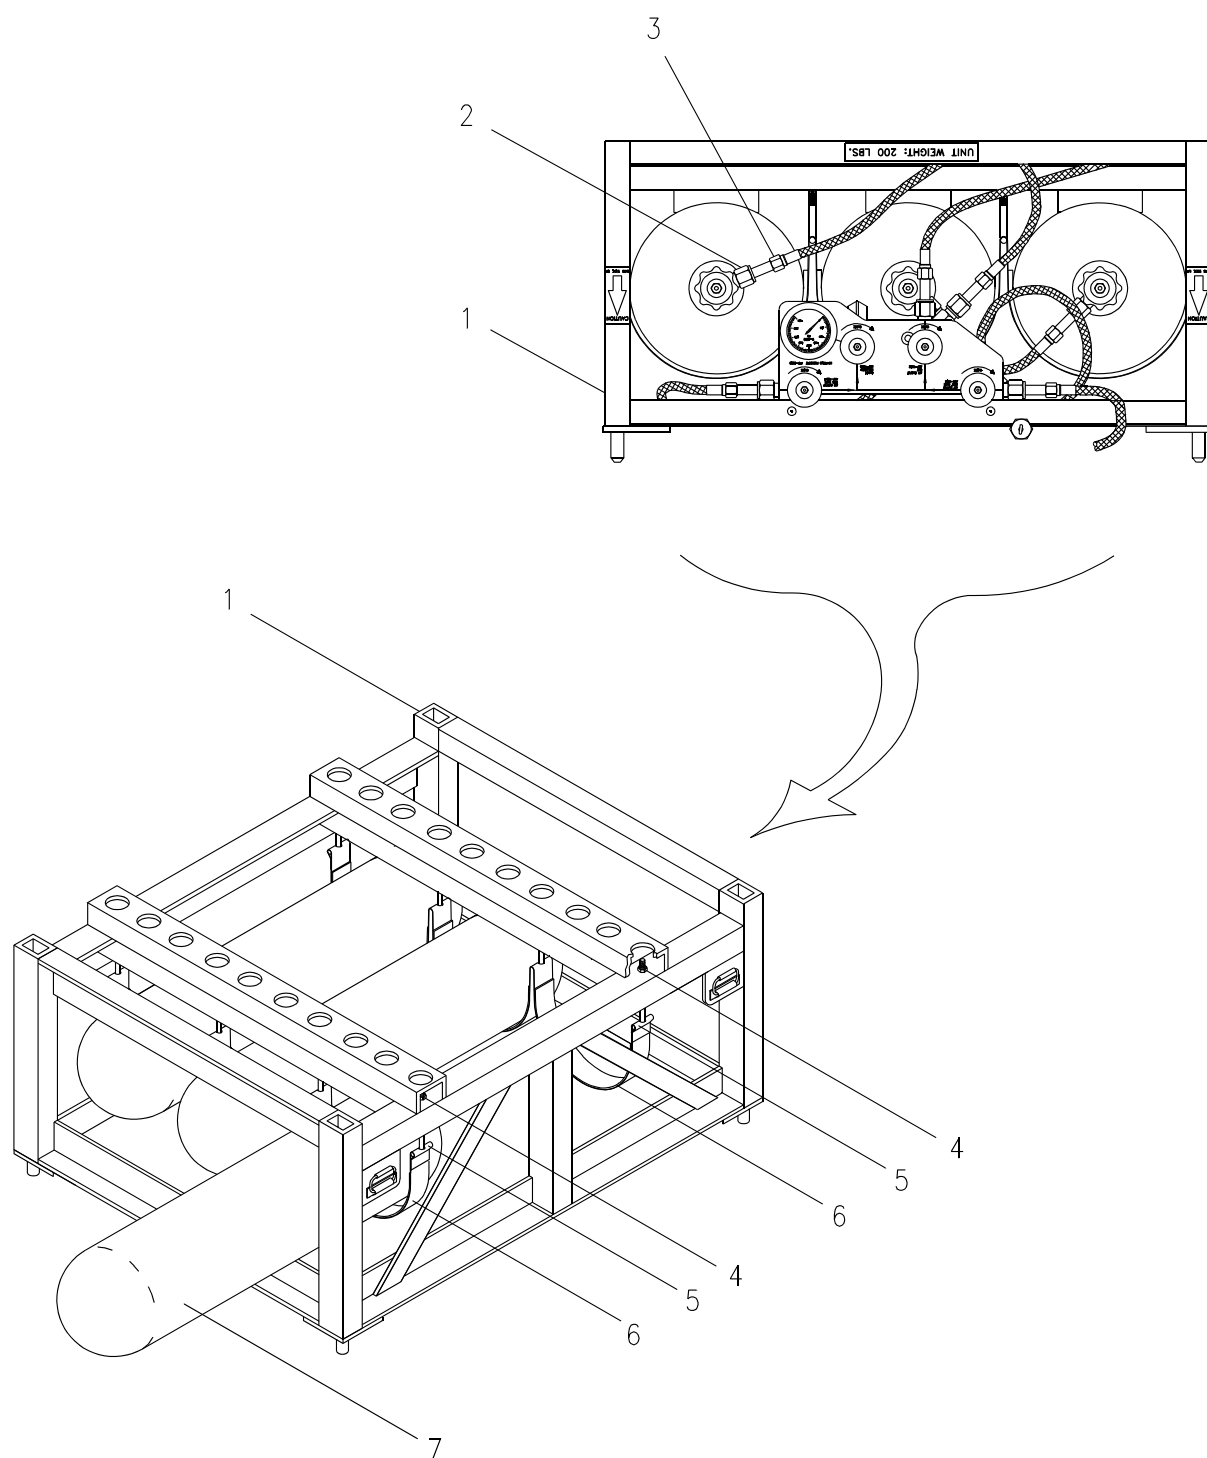

Figure 6-12. Flask Removal
assemblies, whereas AHP-V506 is connected to a cross. Refer to Figure 7-37 for an index of replacement part numbers and to Appendices C, D, and E for detailed inspection and handling procedures for HP air flasks. Unless otherwise noted, the callouts in the procedure below refer to Figure 6-12.
- (5) Bleed all air from flask(s) to be removed. Bag flask shutoff valve(s).
- (6) Loosen both strap assemblies (Figure 6-12, 6) evenly while holding T-bolts (5) with a pair of pliers and loosening nuts (4) until flask (7) rotates easily.
- (7) Slide flask (7) out through rear of flask rack assembly (1). Use caution to avoid damaging flask.
- (8) Repeat steps (6) and (7) for remaining flasks to be repaired or replaced.
- (1) Ensure flask rack assembly (1) is inverted and straps (6) are loosened.
- (2) Working from open end of flask rack assembly (1), carefully slide flask (7) through straps (6).
- (3) Using the upper portion of Figure 6-12 as a guide, turn flask until flask valve outlet is positioned approximately as shown in the figure. Note that each flask will be positioned differently according to its location within the rack.
- (5) Remove bagging from flask shutoff valve. While holding 3/4-inch hex nut (Figure 6-12, 3) in place, reinstall and tighten CGA 346 nut (2) to flask shutoff valve. If necessary, slightly reposition the flask valve outlets to achieve the proper fit before tightening the CGA 346 nut.
- (6) Secure both strap assemblies (6) evenly to flask (7) by holding T-bolts (5) with a pair of pliers while tightening nuts (4).
- (7) Repeat steps (2) thru (6) for all remaining flasks.
- (8) Return flask rack assembly to upright position and place in desired location.
- (9) Charge flasks to full working pressure in accordance with approved procedures. Using NID solution prepared in accordance with paragraph 4.7.3.2, pressure test flask connections for leaks and correct as necessary.
- (10) Complete reentry control report and log as appropriate.